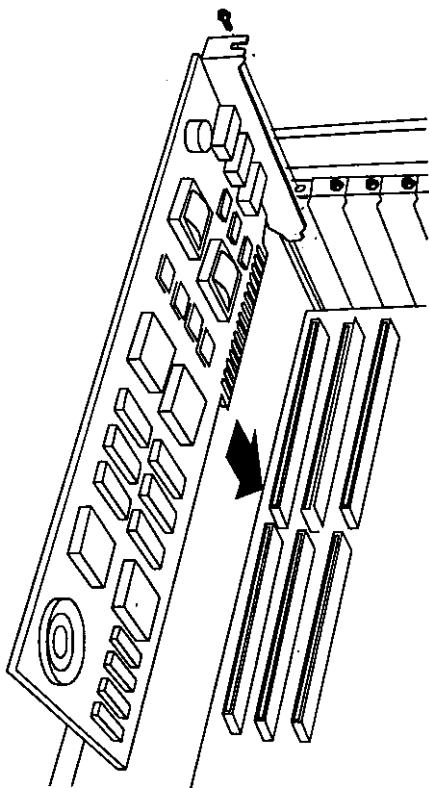

Figure 8. Insert the Modem Card
7. Align the gold plated connectors on the bottom edge of the card with the matching ISA connector slot on the computer's main board and press the card firmly into the slot (Figure 8). Don't touch the connectors.